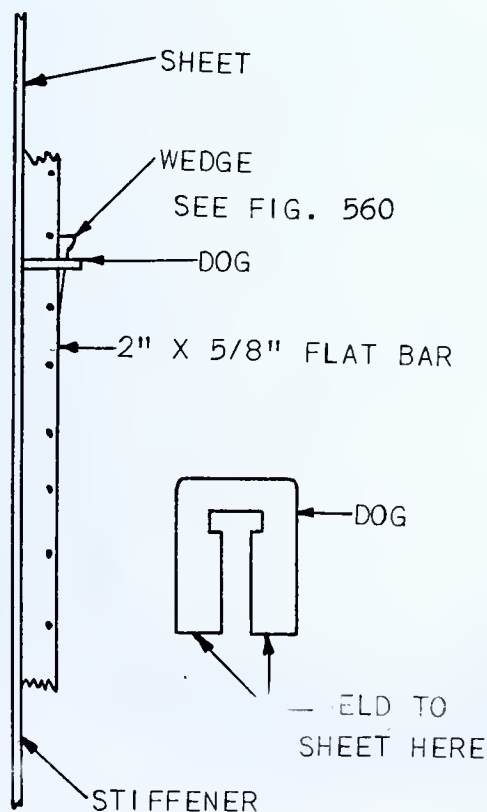

FIG. 569 — *Welding Flat Bar to Uptake*
16. Fit 2" x  $\frac{5}{8}$ " flat bar on edge to outside of both uptakes on set marks provided with the holes mentioned in Step 15 on the outside. (Fig. 569 shows typical method of fitting flat bar to uptake sheets.)
5. What is the purpose of the holes in the stiffener (shown in Fig. 569)?